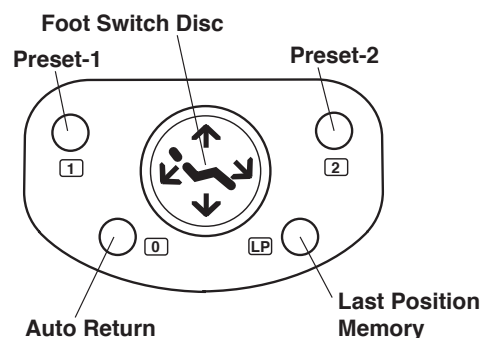

Fig.4-5 Foot Switch
(1) Preset position Adjustment (Fig.4-5)
(2) Mouth Rinsing Position Adjustment (Fig.4-5)